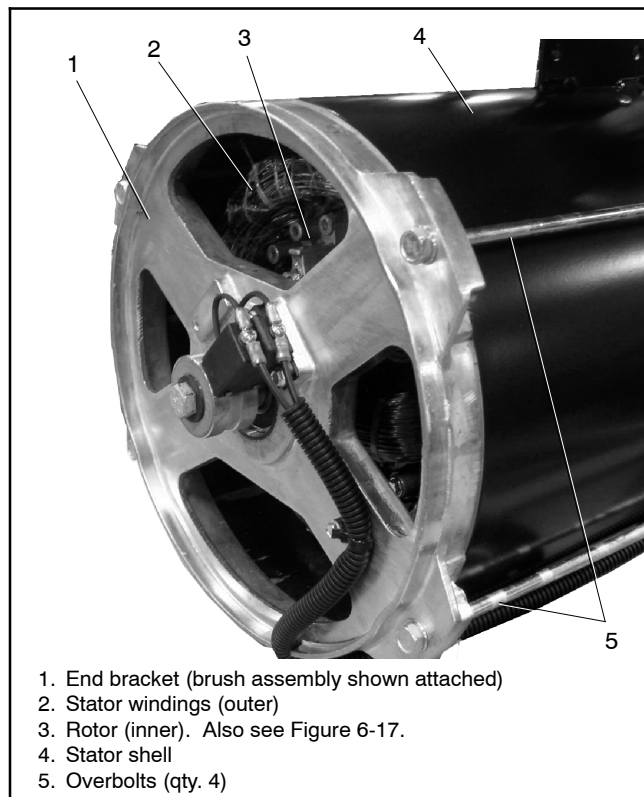
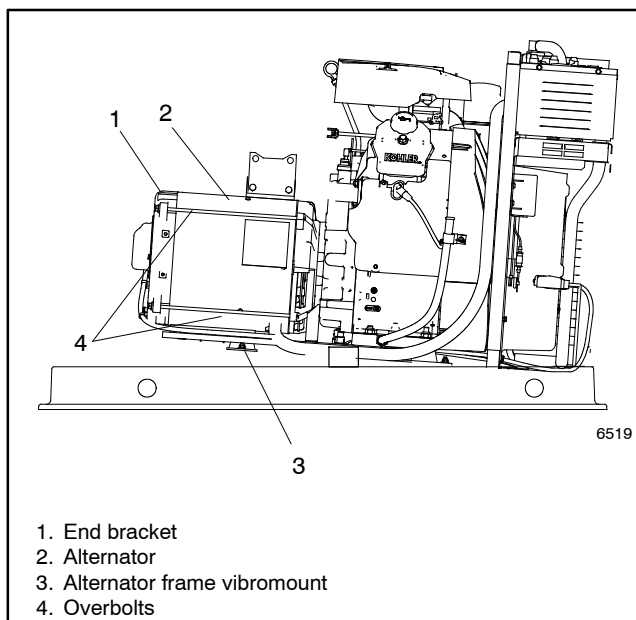

Figure 6-21 End Bracket and Brush Assembly
Figure 6-22 Generator Set, Right Side
- e. Place the end bracket onto the stator assembly, lining up the alignment marks on the top of the stator and end bracket. See Figure 6-21.
- f. Thread the four overbolts with locating washers through the end bracket and into the generator adapter. See Figure 6-21 and Figure 6-22. Position the locating tab of each washer to the outer edge of the oblong (OBROUND) hole on the end bracket. The overbolts should be parallel to the outside of the alternator. If the overbolts are slanted, rotate the locating washer 1/2 turn. Do not final tighten the overbolts at this time.